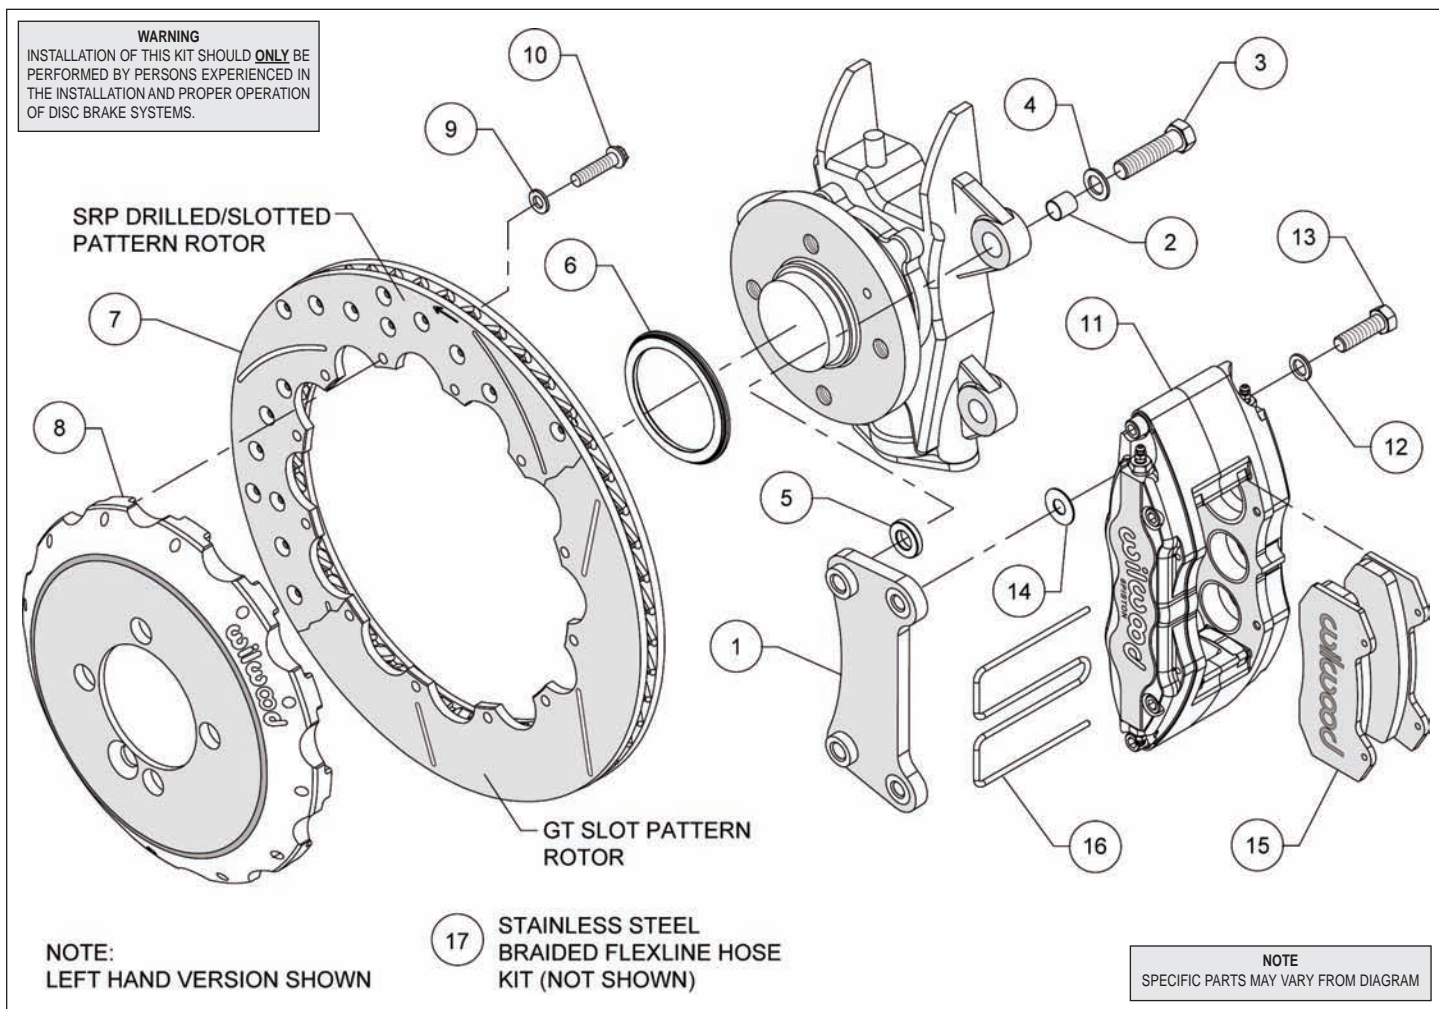
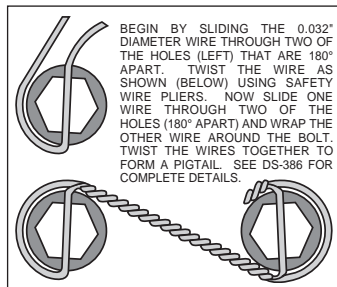
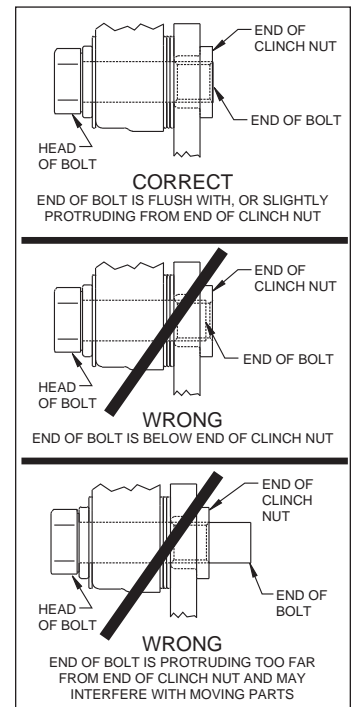

Figure 1. Typical Installation Configuration
Figure 3. Safety Wire Diagram
Figure 4. Clinch Nut Engagement Diagram
Assembly Instructions (numbers in parenthesis refer to the parts list and Figure 1 on the preceding pages): **CAUTION:** All mounting bolts must fully engage clinch nuts. Be sure to check that all bolts are either flush or protruding through flanged side of clinch nut after shimming, Figure 4.
- Orient the caliper mount bracket (1) as shown in Figure 1 and Photo 1, and install using bolts (3), washers (4), and spacers (5). Insert one sleeve (2) into each of the upright mounting lug holes, Figure 1. Place the spacer between the Original Equipment Manufacturer (OEM) mounting lug and the bracket, Figure 1. Ensure that the flanged heads of the clinch nuts in the bracket are facing outboard, Photo 1. Temporarily tighten the mounting bolts. **NOTE:** The bracket must fit squarely against the mount bosses on the upright. Inspect for interference from casting irregularities, machining ridges, burrs, etc. Remove bolts one at a time, apply red *Loctite*® 271 to the threads and torque to 60 ft-lb.
- Orient the rotor (7) and the hat (8) as shown in Figure 1 and Photo 2. Attach rotor to hat using bolts (10) and washers (9). Using an alternating sequence, apply red *Loctite*® 271 to the threads, and torque to 155 in-lbs. For an added measure of security, the bolts may be safety wired using standard 0.032 inch diameter stainless steel safety wire as shown in Figure 3. Please refer to Wilwood's data sheet DS-386 (available at www.wilwood.com/Pdf/DataSheets/ds386.pdf) for complete safety wire installation instructions.
- Slide the rotor registration adapter (6) onto the axle register on the axle hub with the smaller O.D. facing toward the rotor/hat (7/8), Photo 3. Align the locating hole in the hat to the hub and slide the hat/rotor assembly onto the hub. **NOTE:** The hat must fit flush against the hub flange or excessive rotor run out may result. Install the stock hat locator bolt and torque to OEM specifications.
- **NOTE:** Please reference the caution statement at the beginning of the assembly instructions. This kit contains distinct right and left hand calipers that must be mounted in a specific direction, as described below. Mount the caliper (11) onto the caliper mounting bracket (1) using bolts (13) and washers (12), as shown in Figure 1. Initially place one .035" thick shim (14) on each bolt between the caliper and the bracket, Photo 4. Ensure that the caliper is mounted so the largest pistons are at the rotor exit end of the caliper, in relation to the direction of rotor rotation. Temporarily tighten the mounting bolts and view the rotor (7) through the top opening of the caliper. The rotor should be centered in the caliper, Photo 5. If not, adjust by adding or subtracting shims between the bracket and the caliper. Always use the same amount of shims on each of the two mounting bolts. **NOTE:** The end of each bolt must be flush with or slightly protruding from the head of the clinch nut, as shown in Figure 4. If necessary place spare shims between washer (12) and caliper mounting ear to achieve the proper clinch nut engagement. Once the caliper alignment and clinch nut engagement are correct, remove the bolts one at a time, apply red *Loctite*® 271 to bolt threads, and torque to 40 ft-lb.